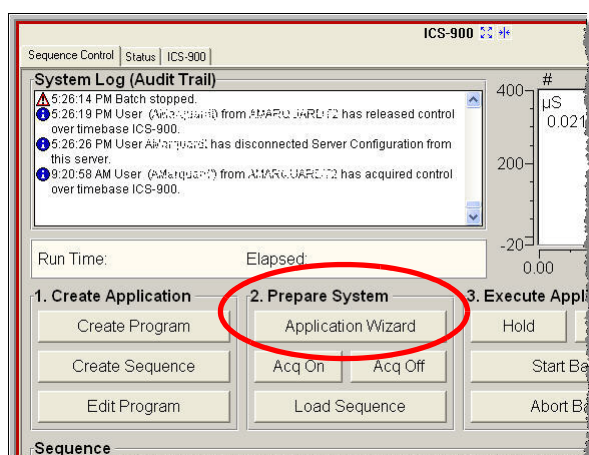

Figure 33. Sequence Control panel on the panel tabset
2. Under **Prepare System**, click **Application Wizard** (see Figure 33).